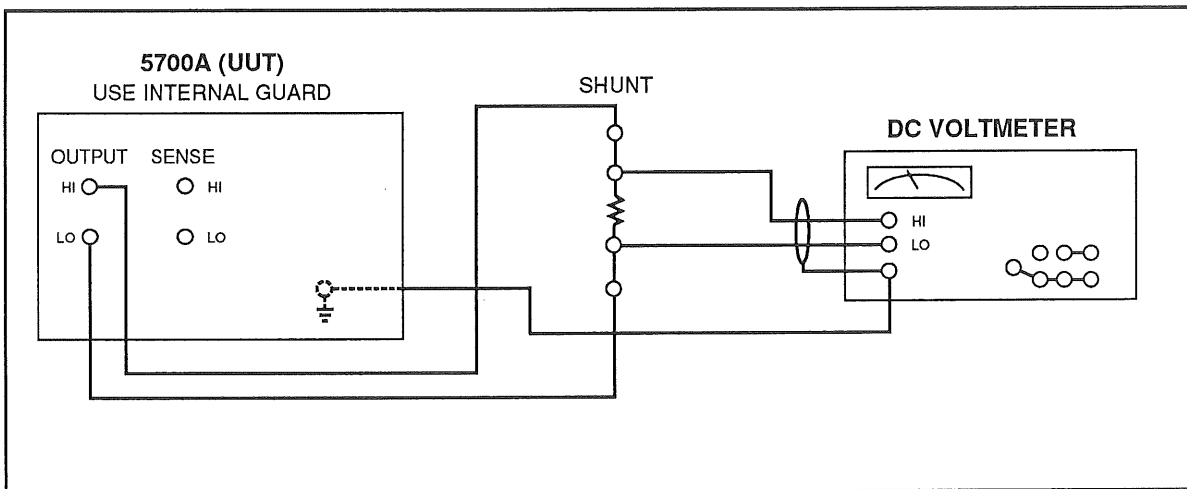

Figure 3-11. Direct Current Tests
3. Connect the equipment as shown in Figure 3-11 using the L&H 0.1 ohm resistor.